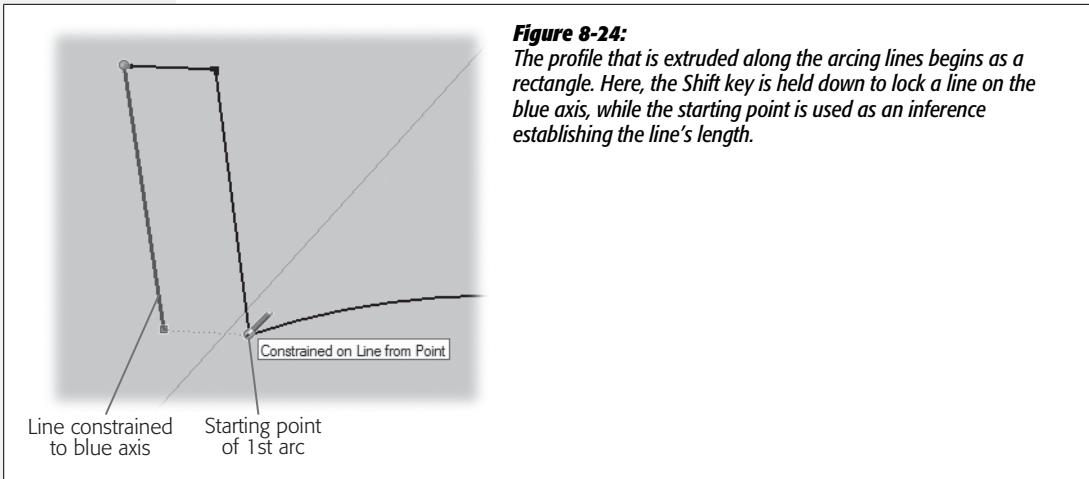

Figure 8-24:
6. Still using the Line tool, start to draw down along the blue axis. Press Shift to lock the line to the blue axis, and then move the cursor over the starting point of the first arc and click (Figure 8-24).